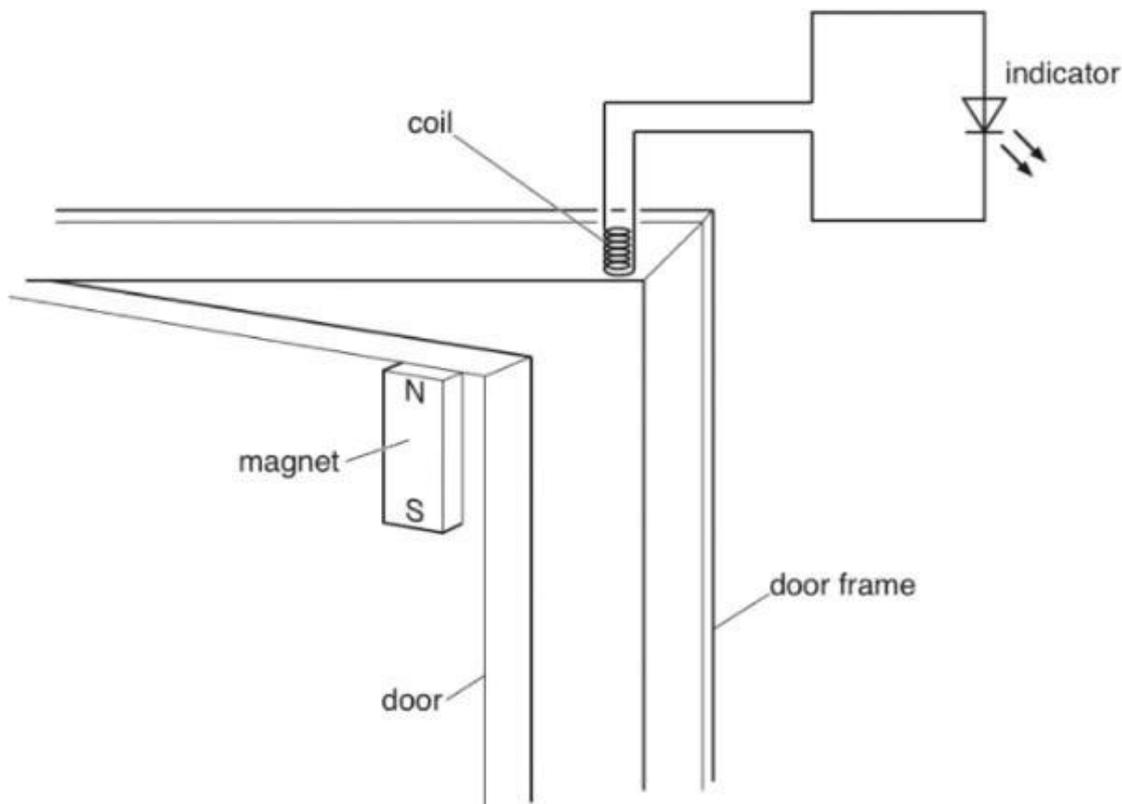

Fig. 10.1
- 10 (a)** A magnet and a coil are attached separately to a door and a door frame as shown in Fig. 10.1.